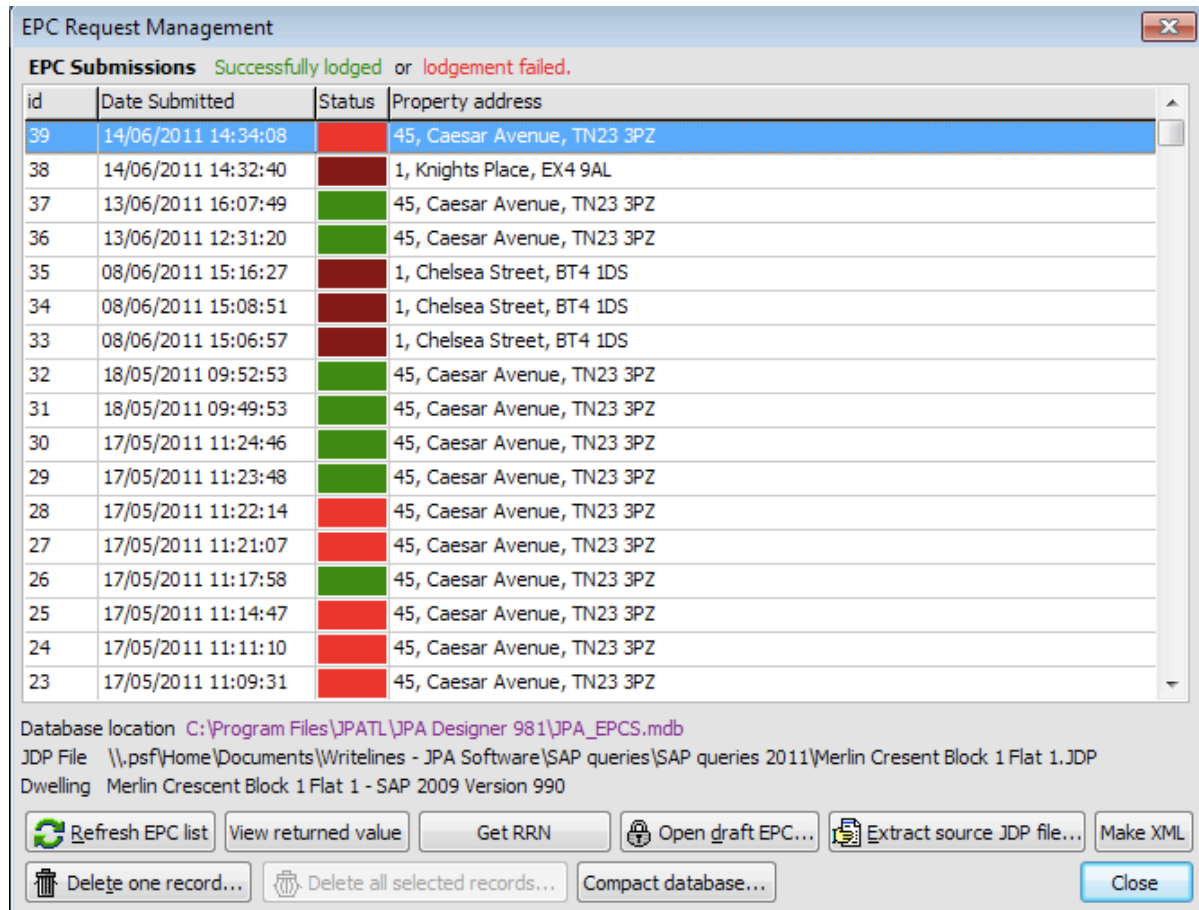

Figure 5.1: The EPC Request Management dialogue
1. Open the **EPC Request Management** dialogue (Figure 5.1).